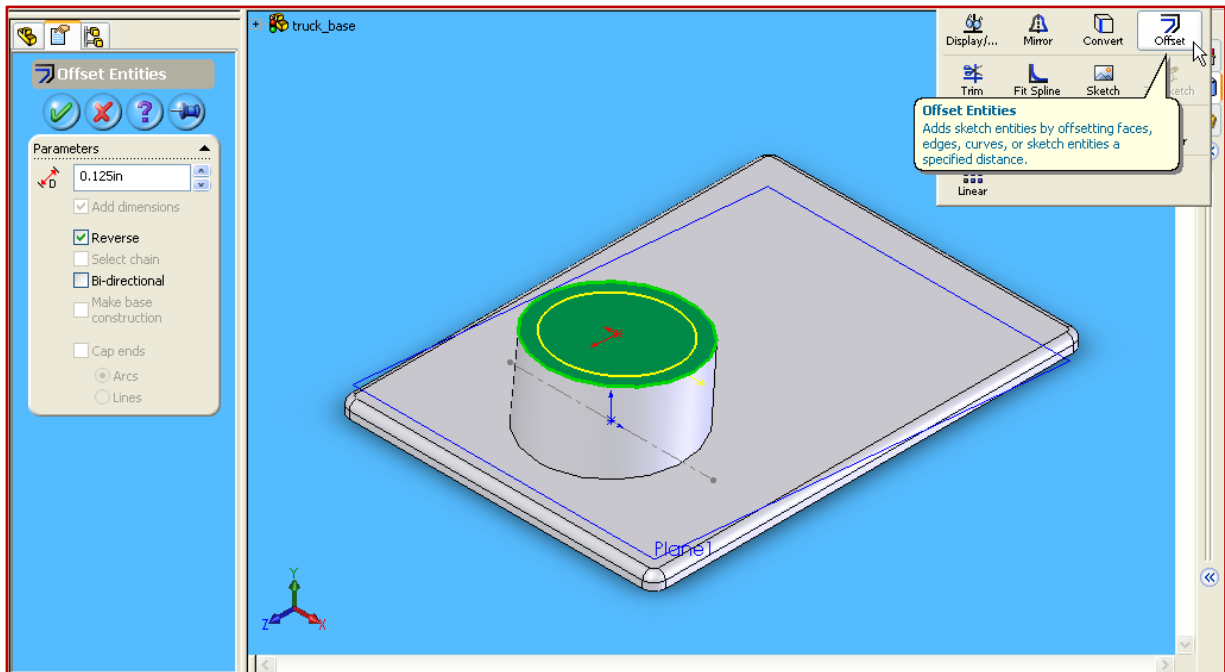

Figure 8.5 – Offset Command
- ✓ In the **CommandManager**→**Sketch** toolbar click on **Offset Entities**. See Figure 8.5.